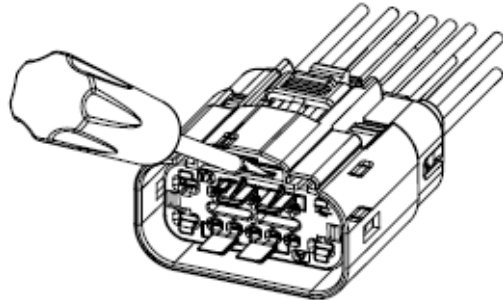

Figure 6
- Insert a small flat blade screw driver in the slot provided in the TPA and apply pressure to "Bridge" area of connector as shown in figure 6.